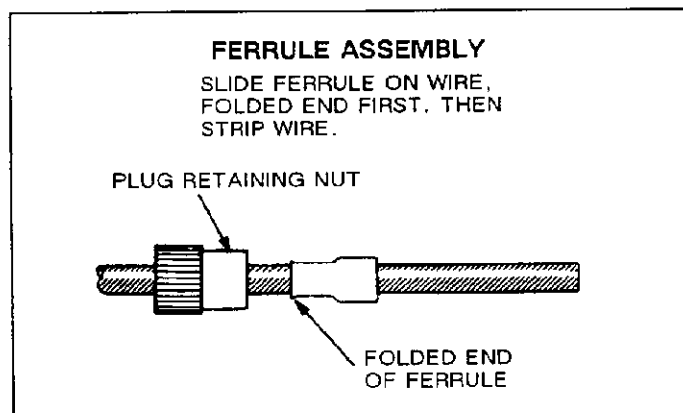

Fig. 2
Before stripping the cable, slip plug retaining nut and one ferrule on the cable as shown in Figure 2. Then proceed as follows:
1. Slip another ferrule on the other cable. See Figure 2.